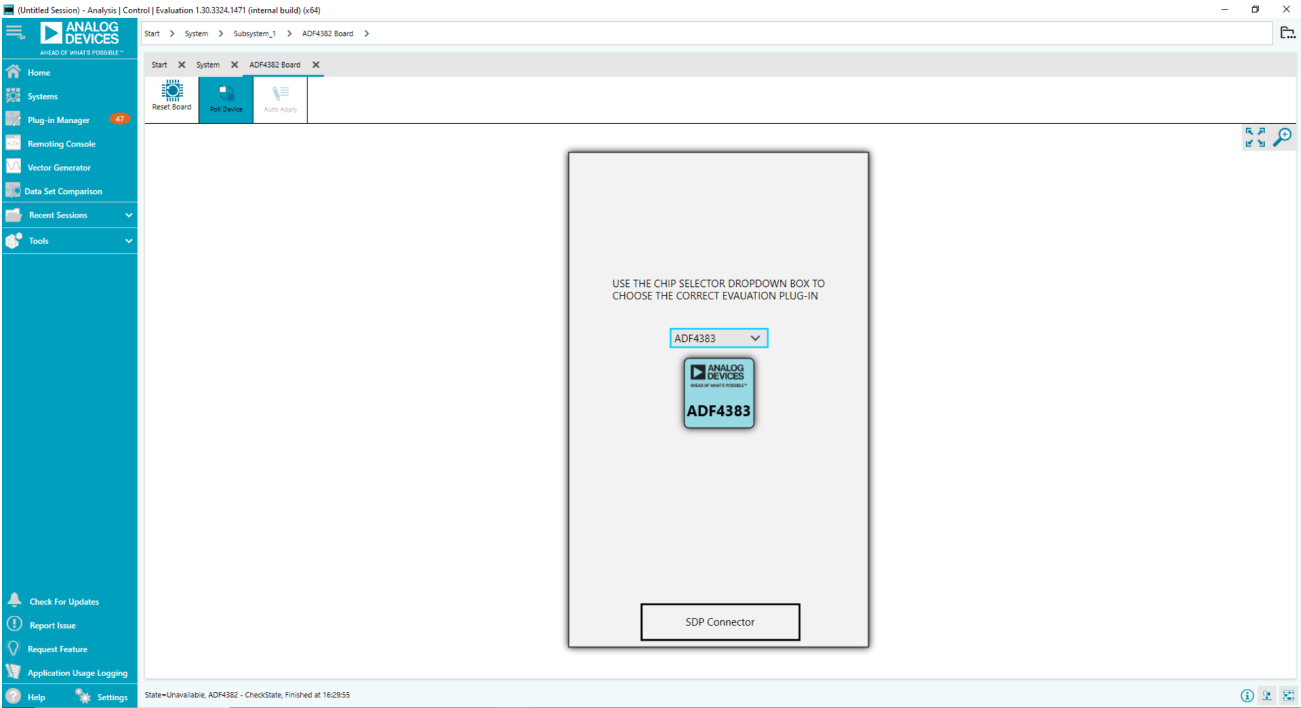

Figure 4. ACE ADF4383 Board Page, Device Selection
- 2. Double-click the **ADF4383 Board** icon and the tab shown in **Figure 4** then appears.